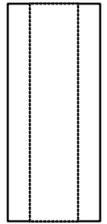

Fig 3
2. Drill the 3 "foot pieces", with a 12mm dia hole as shown in fig 3 along the long axis. I used a pedestal drill and vice but a portable drill can be used provided the drill is held perpendicular to the wood and the wood is held firmly in a vice or workmate.